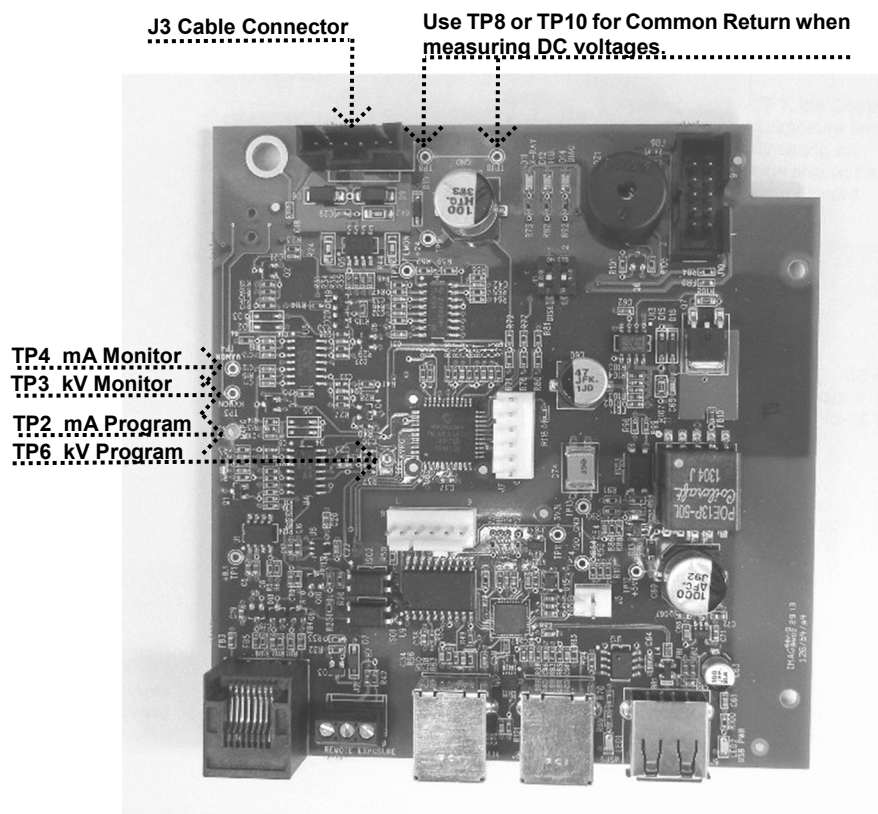

Figure 67
3. If the cabling is found acceptable, select 1.5 seconds of exposure time, and placing a DC voltmeter on TP8 or TP10, the Common Return on the Logic Board, measure the feedback values at TP4 mA Monitor and TP3 kV Monitor, as shown in *Figure 67*. Look for the following values:
1. On the Logic Board, place a voltmeter on TP8 or TP10, the Common Return, and TP6, kV Program, as shown in *Figure 67*. Compare measurements to the following chart (volts DC).
2. To evaluate the feedback voltages that represent the measured kV within the system, compare the observed values in the table below. To properly observe these values, select 1.5 seconds of exposure time and measure the DC voltages during the exposure only. This measurement is made across TP8 or TP10, the common return and TP3, the kV Monitor, as shown in *Figure 67*.
1. On the Logic Board, place a voltmeter on TP8 or TP10, the Common Return and TP2, mA Program, as shown in *Figure 67*. Compare measurements to the following chart (volts DC).
2. To evaluate the feedback voltages which represent the measured mA within the system, refer to the table below; select 1.5 seconds of exposure time and measure the DC voltages during the exposure only. This measurement is made across TP8 or TP10, the Common Return, and TP4, the mA Monitor, as shown in *Figure 67*.